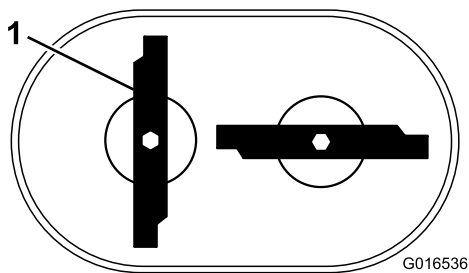

Figure 43
**Note:** The blades should be perpendicular, forming an inverted "T" as shown in Figure 43.